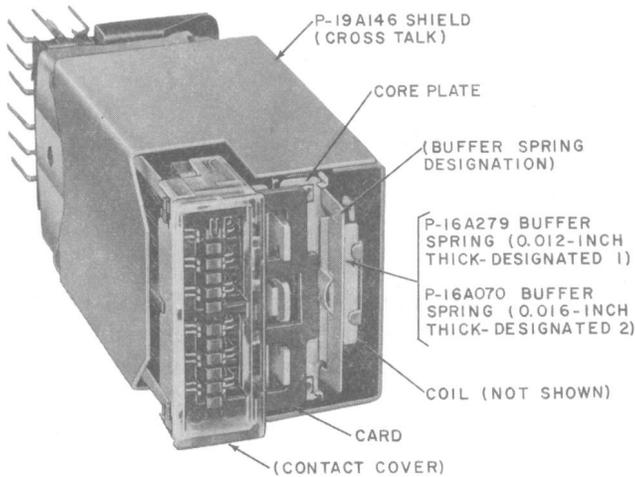

Fig. 1—AL-Type Relay—General View
- Revise Fig. 1
2.01 Fig. 1 and 2 show the various piece parts in their proper relations to other parts of the relays. Tables A through E give the piece-part numbers for cards, buffer springs, and contact covers. The piece-part numbers of the various parts are given with the names of the parts as listed by the Western Electric Company Merchandise Department. When these names differ from those in general use in the field, the latter names in some cases are shown in parentheses.